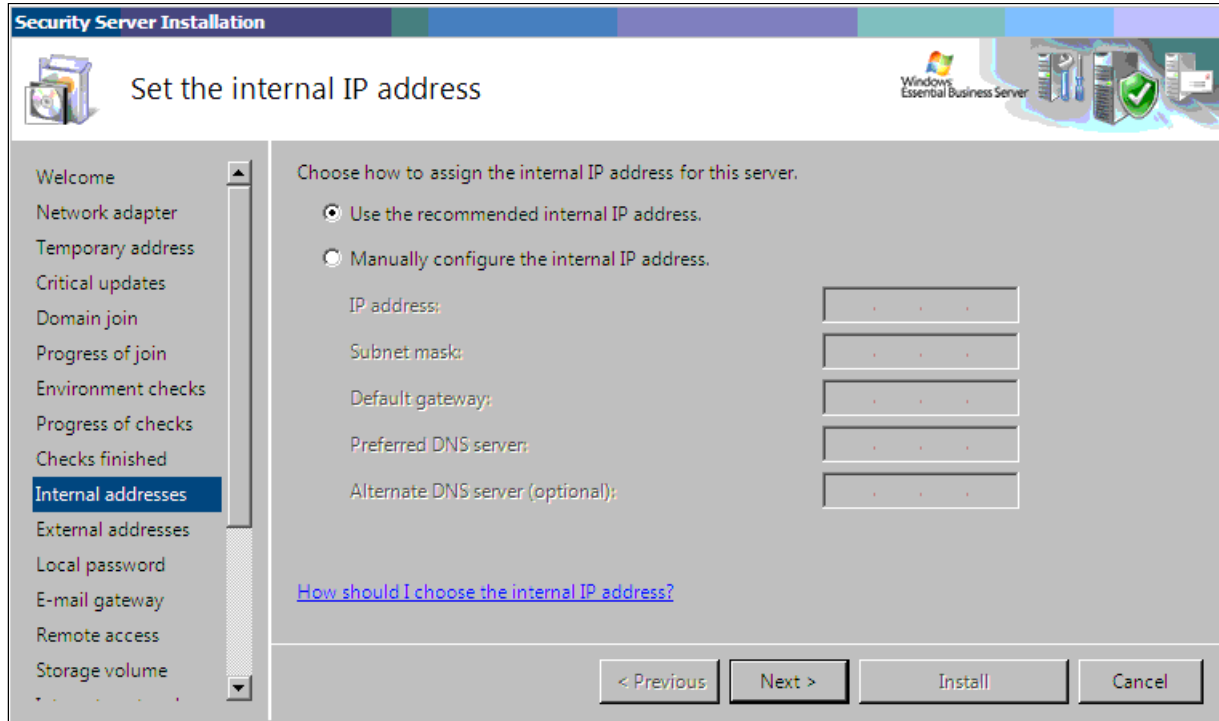

Figure 4-27 Set the internal IP address
17. On the “Set the internal IP address” panel (Figure 4-27), verify that the selected settings are the same as those selected during the Management Server installation. We selected the default. Click **Next**.